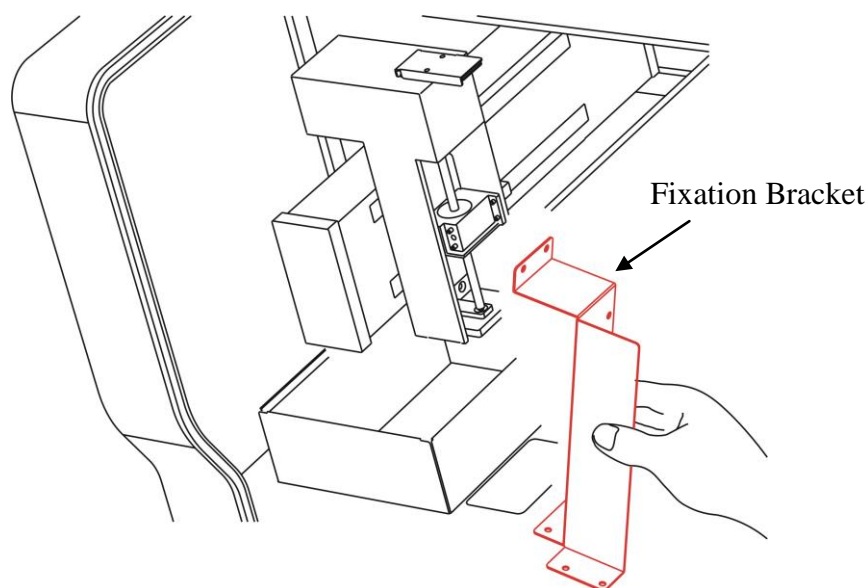

Figure 6. Removal the Fixation Bracket
7. Open the lid and remove the Fixation Bracket (**Red**, Figure 6), used in positioning the Y and Z axes during transportation, by unscrewing 7 screws. Screw the 7 screws back to the original holes.